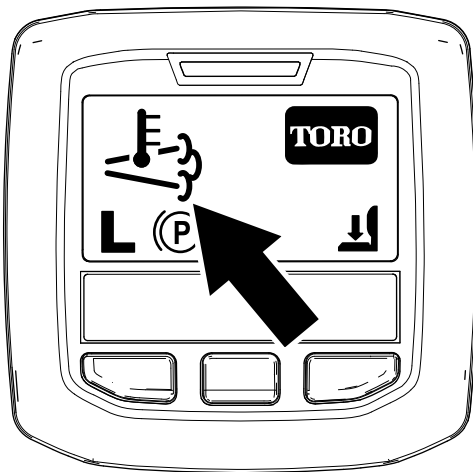

Figure 48
- The high exhaust-temperature icon  displays in the InfoCenter (Figure 48).